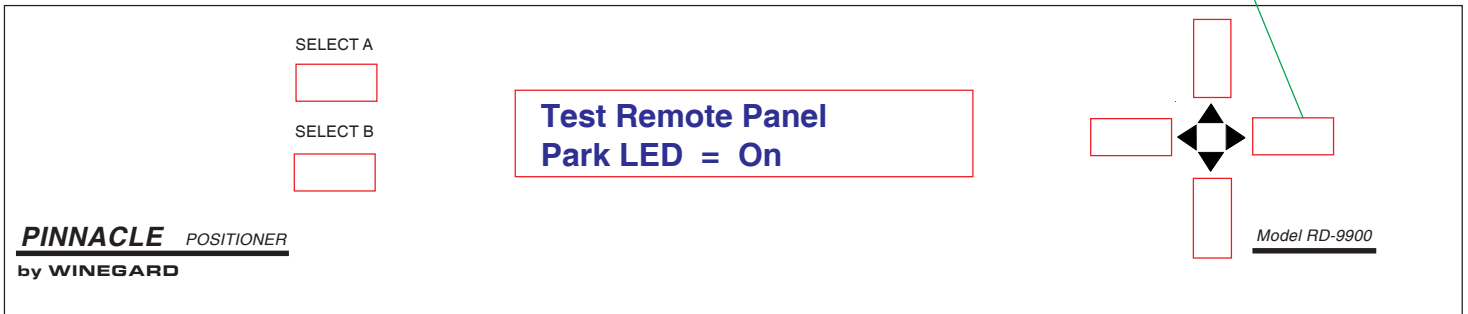

Figure 17
10. Press **[RIGHT] arrow button** twice. Park LED will light on remote panel when **Park LED = On** is displayed on positioner. See Figure 17.